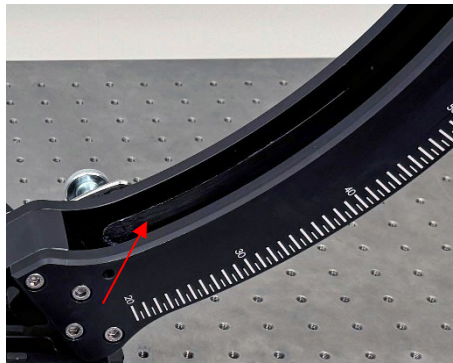

Figure 52. ARM slide mechanism cleaning and re-lubrication.
- To clean and re-lubricate ARM, wipe off the old grease from the two inner grooves of the ARM where shelf is sliding (Figure 52).